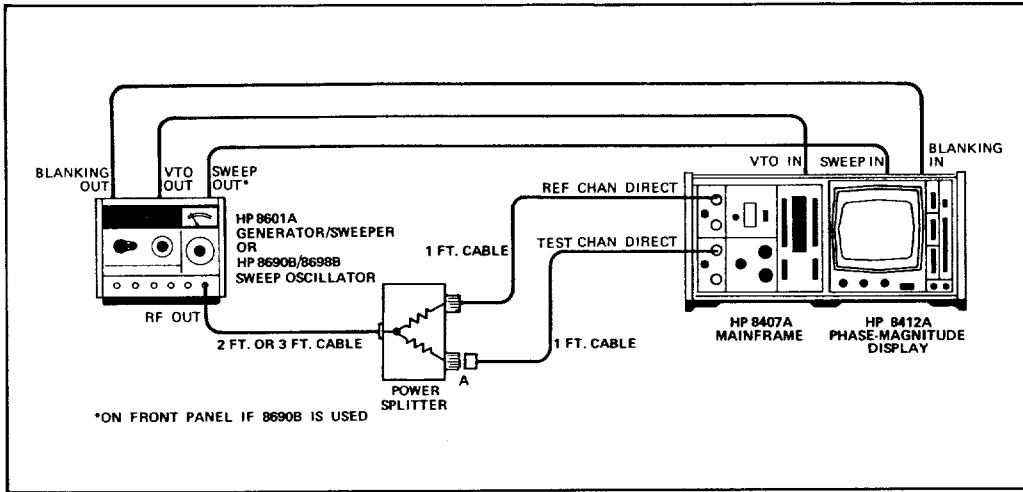
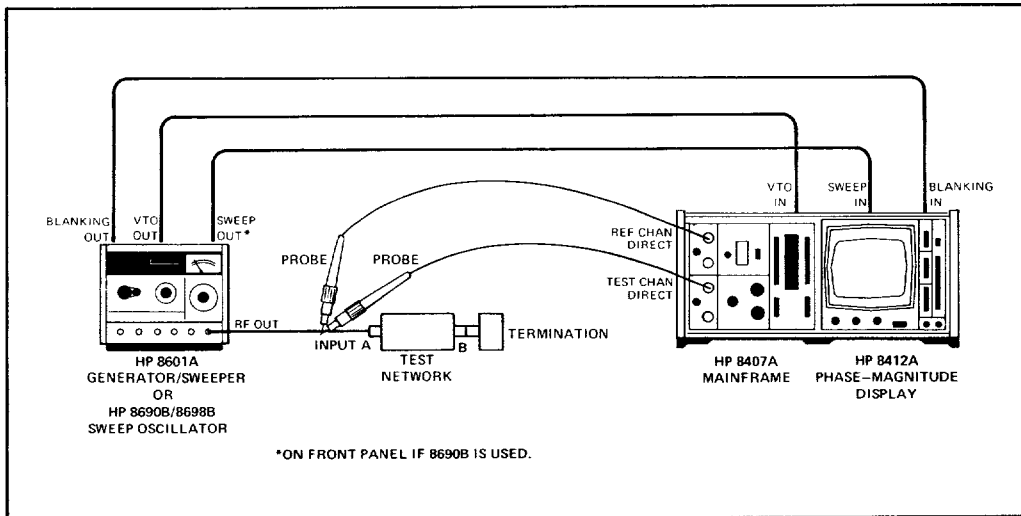

Figure 5-1. Setup for Making Transmission Measurements.
Figure 5-2. Transmission setup if 11654A Probe Kit is used. After calibrating the system, the test probe is moved to point B to make the measurements.
1. SET-UP. Set up the equipment as in Figures 5-1 or 5-2.
3. TEST. Insert your test device at point A in Figure 5-1 and read your value of attenuation or gain.
1. 11652A (Figure 5-1).
11654A (Figure 5-2).
If you're using the probes from the 11654A Passive Probe Kit, your initial setup will be as shown in Figure 5-2.
Insert the test device at point A in Figure 5-1. (For a probe measurement, move the probe connected to TEST input to point B in Figure 5-2.)